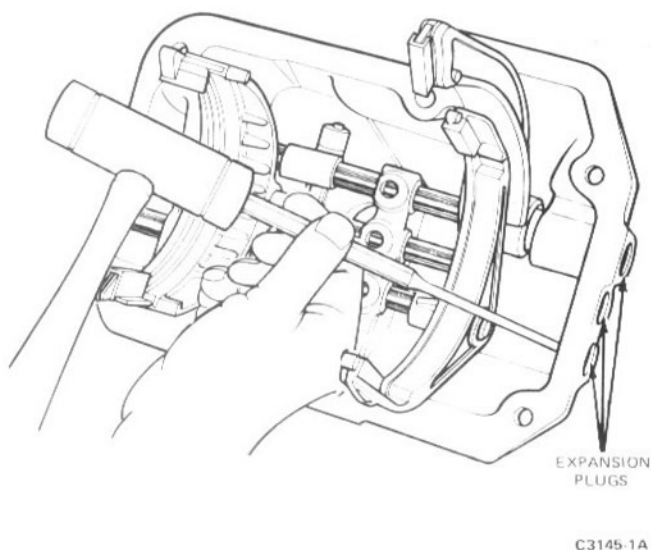

FIG. 19 Removing Expansion Plugs from Shift Housing
5. Remove the three expansion plugs from the forward end of the shift housing (Fig. 19). Using a pin punch, remove the three lock pins from the shift forks and the three lock (roll) pins from the gear shifter shaft gates.